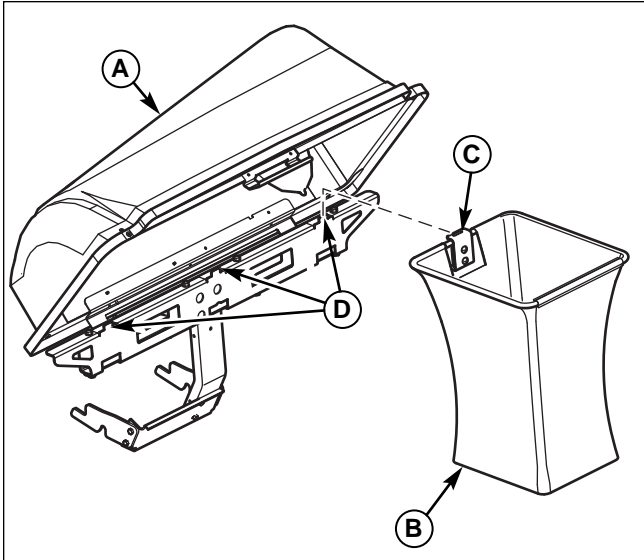

**Figure 11. Attach Hitch and Upright Support**
1. Attach hitch and upright support assembly (A, Figure 11) to frame spacers (B) as shown.